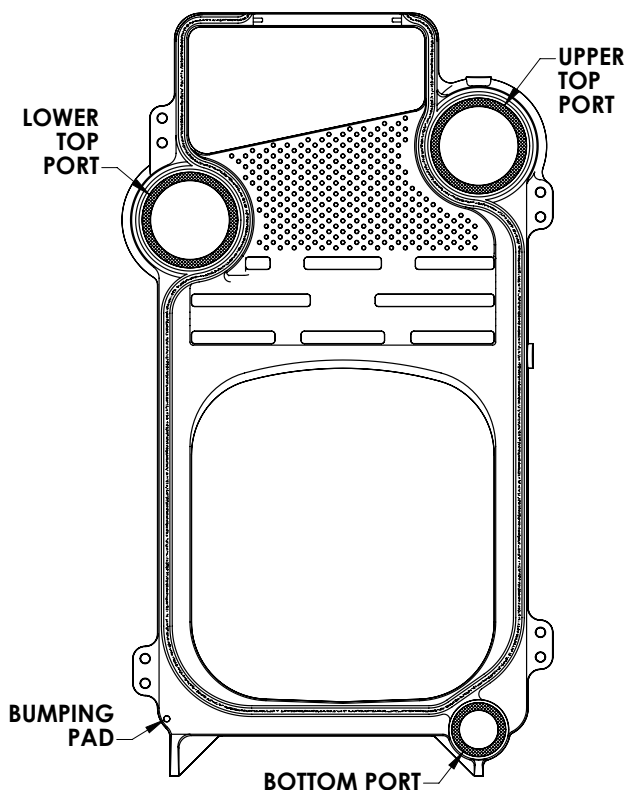

Figure 2.6: Torque Specification/Procedure
- b. Draw the sections together evenly, in three rotations. Torque each port to 20 ft-lbs for the first rotation, then to 40 ft-lbs for the second rotation, then to 60 ft-lbs for the third rotation. Use the following sequence until all three ports touch metal-to-metal at 60 ft-lbs. See Figure 2.6 for port reference.
- c. Tighten these (3) three locations only to a torque value of 60 ft-lbs. DO NOT EXCEED.